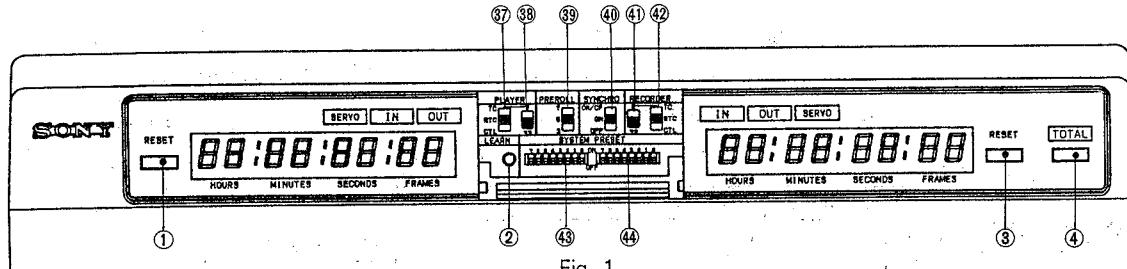
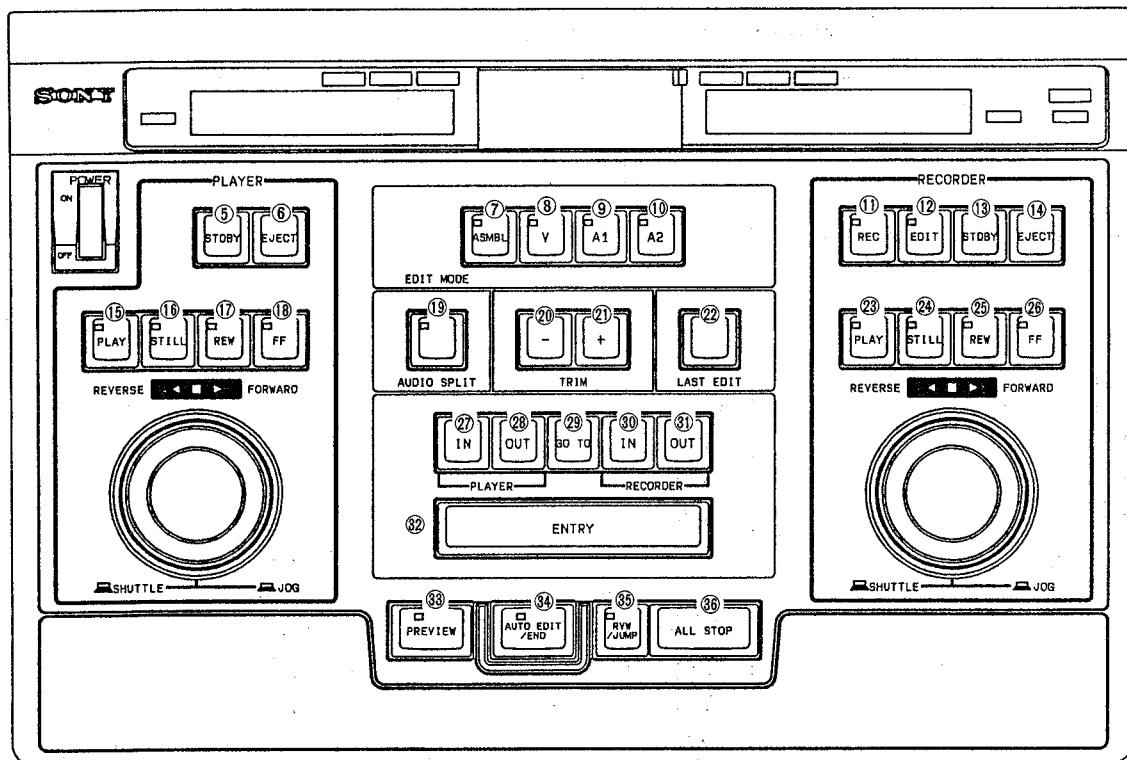

Fig. 1
Fig. 2
- Turn power ON while pressing ② [LEARN] in Fig. 1 and ⑦ [ASMBL] in Fig. 2 at the same time.
- Press ⑭ [EJECT].
- Again press ⑭ [EJECT], and "11..." appears on 7-segment display on the left side.
- Press keys in the order of ①, ②, ③ ... ⑯, and ⑰.
(1) Place all indoor switches ⑯ to ⑰ in Fig. 1 in upper position, and press ⑭ [EJECT].
- Place the above switches in lower position, and press ⑭ [EJECT] twice.
- Place ⑯ ⑰ ⑯ and ⑰ switches in Fig. 1 in center position, and press ⑭ [EJECT] twice.
- (1) Turn ON the POWER switch while pressing ② [LEARN] in Fig. 1 and ⑩ [A2] in Fig. 2 at the same time.
- (2) Press ⑭ [EJECT] in Fig. 2.
(3) Remove the DIP switch from S202.
To confirm whether additional error codes are present in the same step, press ⑬ [STDBY] key in Fig. 2.
To proceed to the next step, press ⑭ [EJECT] key in Fig. 2.